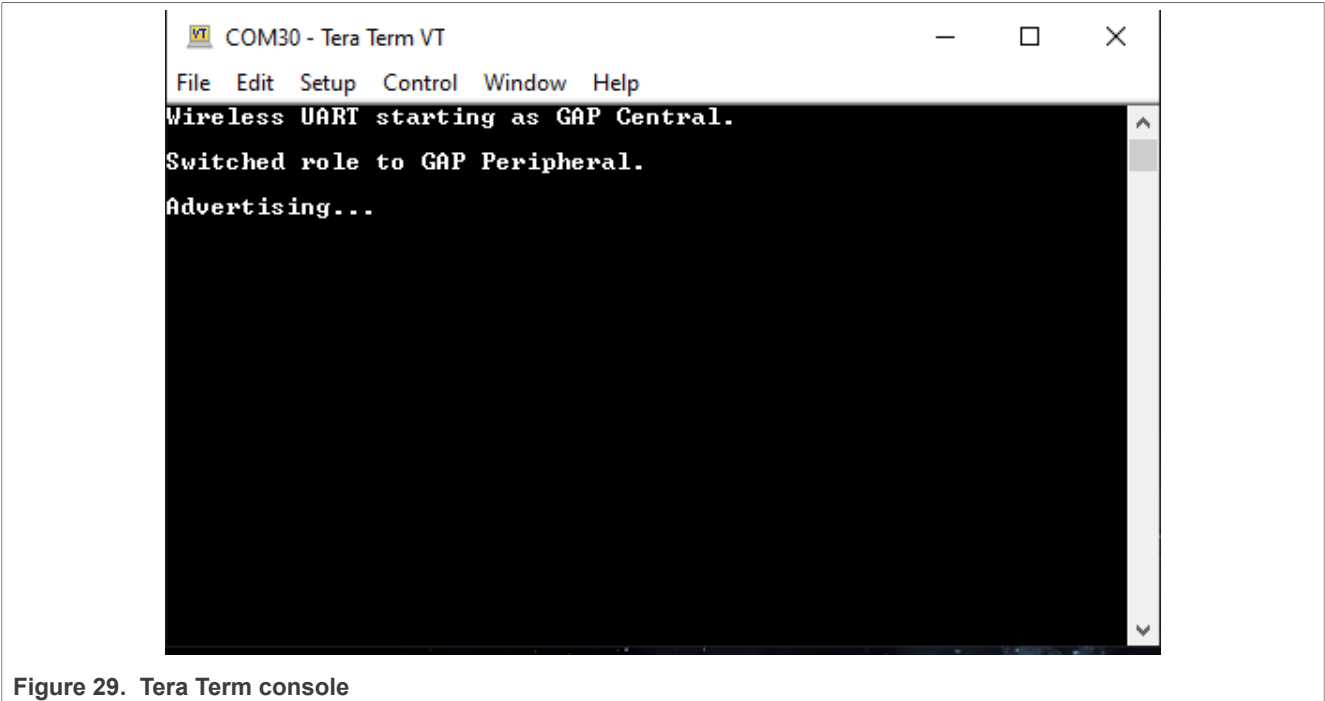

Figure 29. Tera Term console
7. Now run the application on the board. On this step, the RGB LED blinks white quickly. Press the button **SW3** to switch to Peripheral (Central) mode, then press **SW2** to start Advertising (scanning). The Tera Term terminal shows the message shown in Figure 29.